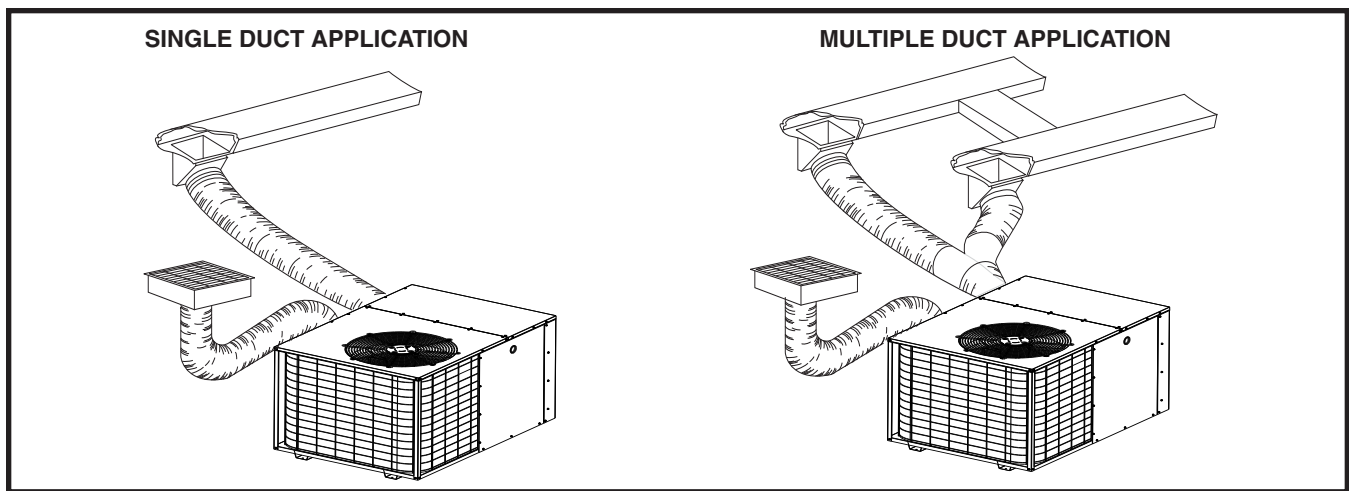

Figure 4. Single & Multiple Duct Applications
- The supply duct system, including the number and type of registers, will have much more effect on the performance of the system than any other factor. The duct must be sufficiently large to conduct an adequate amount of air to each register. See Figure 4 (page 7).